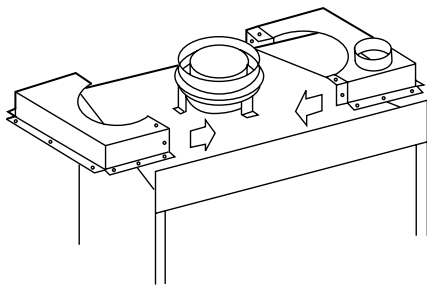

Figure 18
Step 5. Attach the cold climate kit, Model FTF8-CCK1-LD, around the chimney collar with the screws provided (see Figure 18).